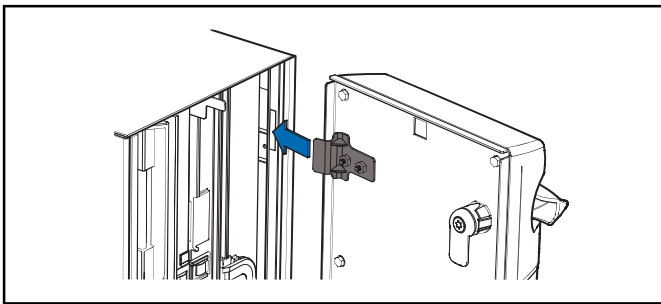

Figure 12 Aligning door tabs
Step 1: Hold door so that tabs are aligned with slots in cabinet as shown in Figure 12.